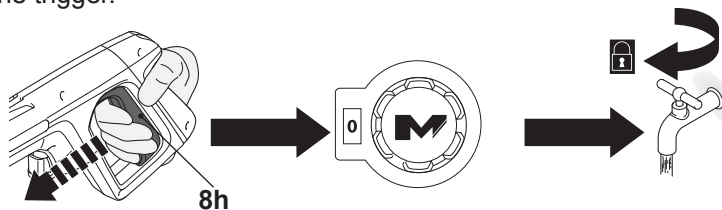

Fig. 17
- > Release the trigger (8h) (Fig. 17).